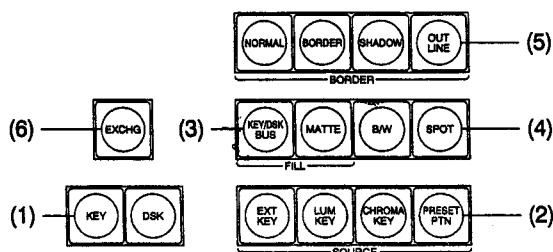

Fig. 5-11 Key/DSK setting cluster
- ON/OFF status of buttons and lamps (except for the bus assign buttons shown in Fig. 5-5(2) and Fig. 5-11(1).)